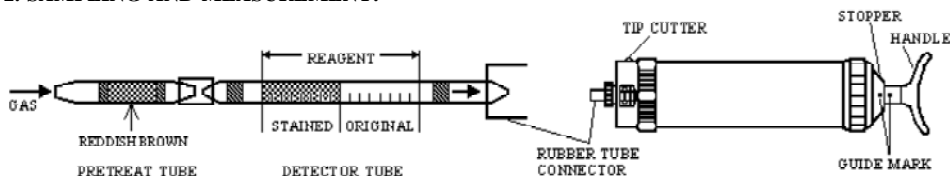

Fig.1
- ① Break both ends of detector tube and pretreat tube, and connect each end of the detector tube and pretreat tube with rubber tube connector as shown in Fig.1.
- ② Insert the detector tube into aspirating pump securely as shown in Fig.1 (Arrow mark shall point to the pump.)
- ③ Align the guide marks on the shaft and stopper of the aspirating pump.
- ④ Pull the pump handle at full stroke until it locks and wait for 40 seconds or until the completion of sampling is confirmed with the flow indicator of the pump (See descriptions about the flow indicator in the instructions of the pump).
- ⑤ On completion of sampling, read the scale at the maximum point of the stained layer.